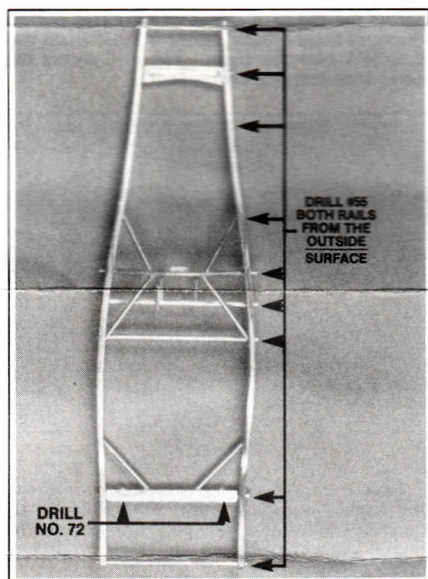

Figure 1
A. Gently bend the side rails and the transmission support "spider" to their proper shape. Figure 1 shows the correct contour of the side rails. Drill the holes marked in the side rails all the way through the rail using a .052" (No. 55) drill bit. **DRILL ONLY THE MARKED HOLES!** The other indentations are locator marks for the cross-member braces. The pins on the cross-members are purposely too long to help you assemble and align the frame. The ends of the pins show in the photo.
B. Refer to Figure 1 again, and drill the holes in the rear axle cross-member for the shock absorber mounting pins using a .025" (No. 72) drill bit.
C. Assemble the frame upside down on a flat surface to keep everything square. FIGURE 1 SHOWS THE FRAME UPSIDE DOWN. Notice that the bracket for the brake booster is on the left side in the photo. The small U-shaped slot should point to the bottom of the car. The tubes on the brake booster cross bar should touch the main tube of the "spider". The longest plain tube fits in the middle of the frame behind the "spider". Insert all the cross members, and use rubber bands to hold the assembly together. Apply the glue when all parts are in place. Cut off the pins, and smooth with sandpaper and filler.